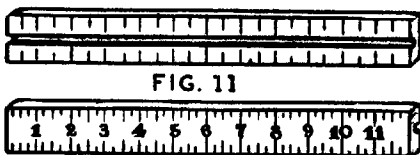

FIG. 11
4. The steel blade or rule, which is part of the combination set, may be fitted to either the square stock, the center head, or the protractor head. (Fig. 11). It may be set at any desired position and clamped. It is sometimes used separately for measuring or used as a straight edge.